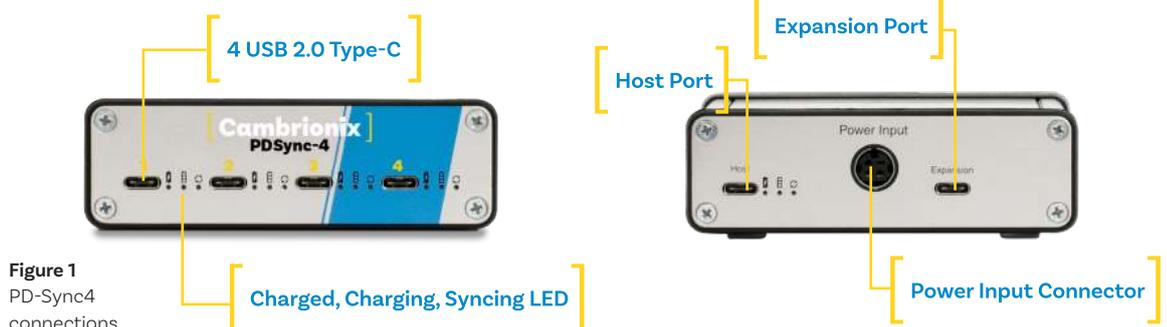

Figure 1
- The PDSync-4 unit (see Figure 1 below)